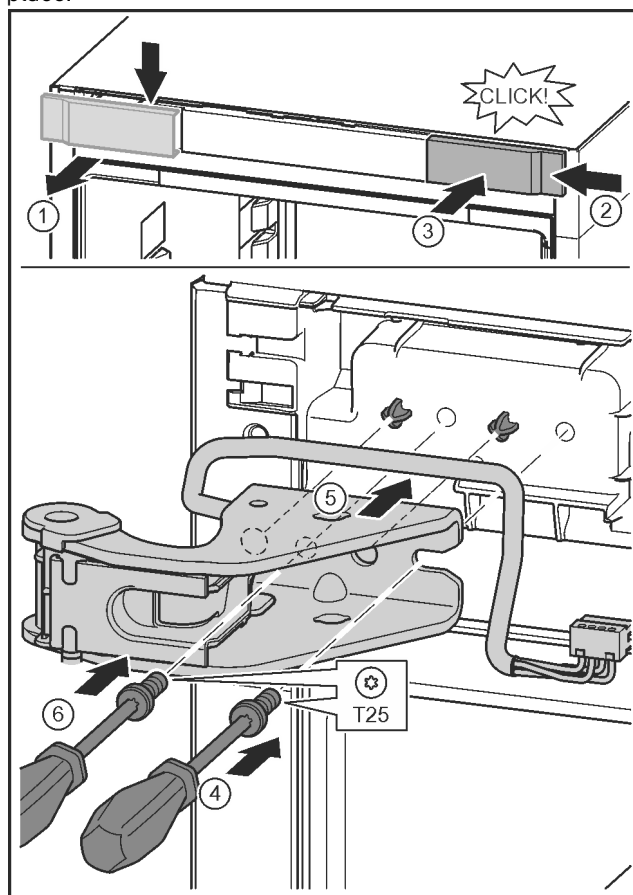

Fig. 28
- Release the cover and remove from the side. Fig. 28 (1)
- Rotate the cover 180° and clip onto the other side from the right. Fig. 28 (2)
- ▶ Click the cover into place. *Fig. 28 (3)*
- ▶ Position the screw with a T25 screwdriver. *Fig. 28 (4)*
- ▶ Position the upper bearing bracket. *Fig. 28 (5)*
- ▶ Tighten the screw. *Fig. 28 (4)*
- ▶ Insert the screw with a T25 screwdriver and tighten. *Fig. 28 (6)*